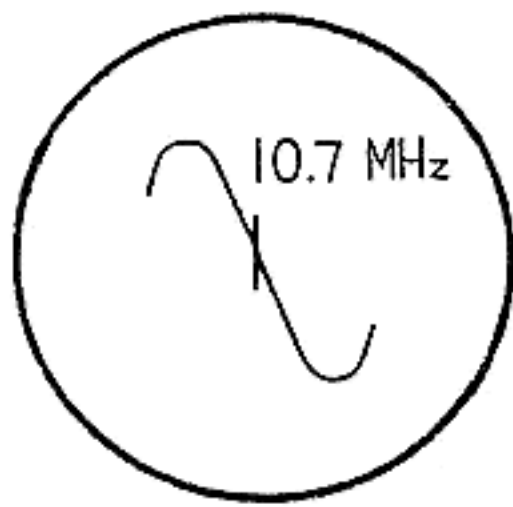

Fig. 13
| (1) | FM | Connect to test point ▼ through 0.001 μ F. Negative side to test point ▼. | 10.7 MHz | Point of non-interference. (on/about 90 MHz). | Connect vert. amp. of scope to test point ▼. Negative side to test point ▼. | T5 (FM IFT) (Secondary) | Adjust for maximum amplitude. (Refer to fig. 13.) |